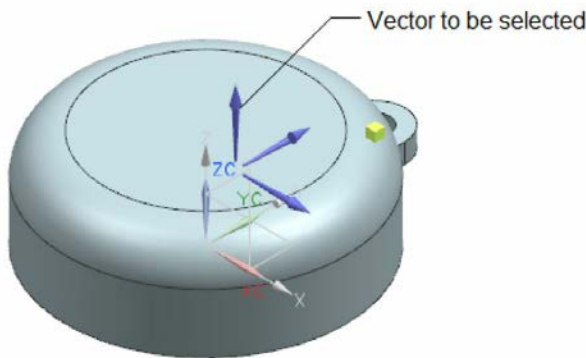

Figure 7-126 Vector to be selected
- Pattern the extrude feature using the **Pattern Feature** tool, refer to Figures 7-126 and 7-127.
Specify the vector, as shown in Figure 7-126; you are prompted to select object to infer point.